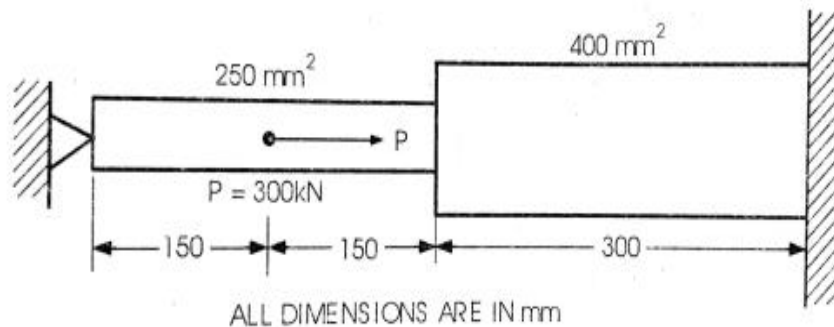

Figure 1 Q.5 (C)
- (c) Consider the Bar as shown in figure 1. Take modulus of elasticity of the bar material. $E=200 \times 10^9 \text{ N/m}^2$. Determine the nodal displacement, elements stresses and support reaction using elimination approach. 07